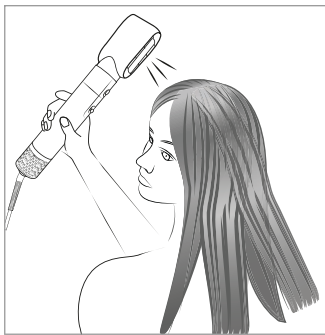

Fig. 1
- 4) Aim the airflow at the hair and move the appliance around the head with one hand (see Fig. 1). Run your free hand through your hair and divide it into strands. This makes it easier to dry the parts underneath.